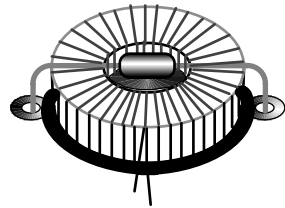

Figure 6-21
- Insert R116's leads into L33's pads, then press the resistor down directly on top of L33. The resistor's body should be partially recessed into the "well" left in the center of the toroid (Figure 6-21).
- Use the leads of R116 to hold L33 firmly to the board (Figure 6-21), bending them outward on the top side. Solder R116.